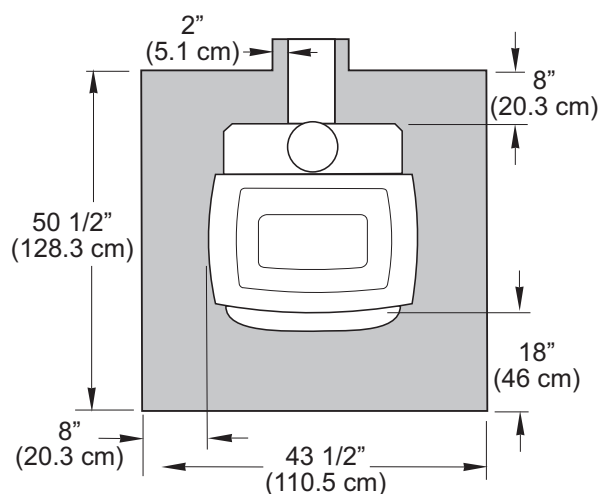

Figure 10. Floor Protection minimum dimensions, Canada.
**In Canada,** floor protection must extend 18" from the front of the stove and 8 in. (460mm) from the sides and rear. It must also extend 2 in. (51 mm) under the chimney connector. This results in a floor protector 43 1/2 in. x 50 1/2 in. (110.5 cm. x 128.2 cm.) See fig.10.